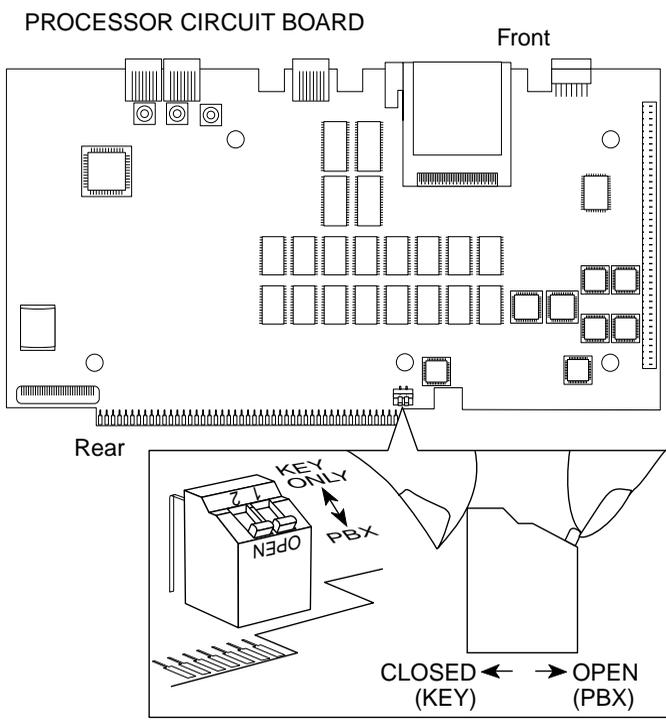

Figure 9-7. Changing the Key Mode Switch Position to Closed
- ▶ 8. Carefully support the dip switch assembly with your index finger, while moving the switch to the closed position. Figure 9-7 on page 9-17.